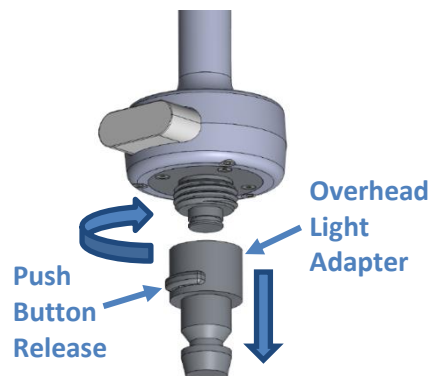

Figure 4.
- 1) Remove the Overhead Light Adapter, as shown in Figure 4, prior to attaching the Table Mount Adapter. Place a Table Mount Adapter on the protruding stem of the SurgiLight and begin threading the adapter clockwise, as shown in Figure 5.